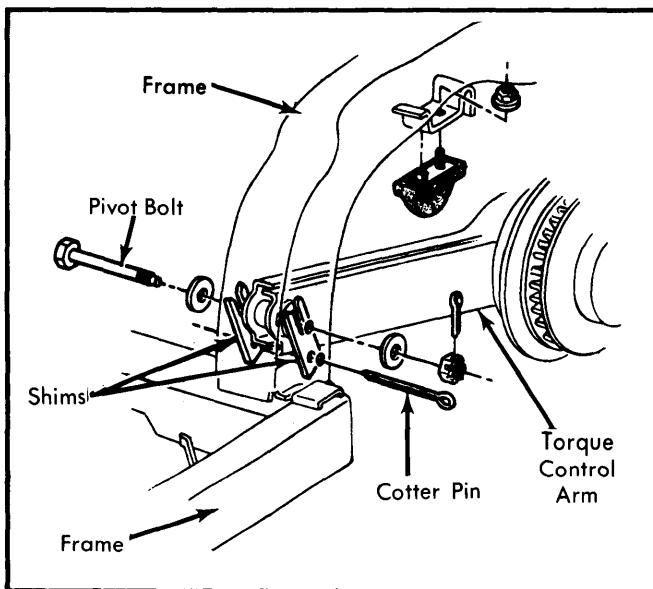

Fig. 29 Rear Suspension Toe-in Shims (Corvette)
2) Shims are slotted to slide over bushing pivot bolt on either side. To adjust, loosen pivot bolt, remove cotter pin retaining shims, and remove shims. Position torque control arm to obtain specified toe-in. Shim the gap toward vehicle centerline between torque control arm bushing and frame side inner wall. See Fig. 29.
3) Shim outboard gap as necessary to obtain solid stack-up between control arm and inner wall of frame side member. Then install cotter pin (loop outboard) through the shims. See Fig. 29. Tighten pivot bolt to 50 ft. lbs.